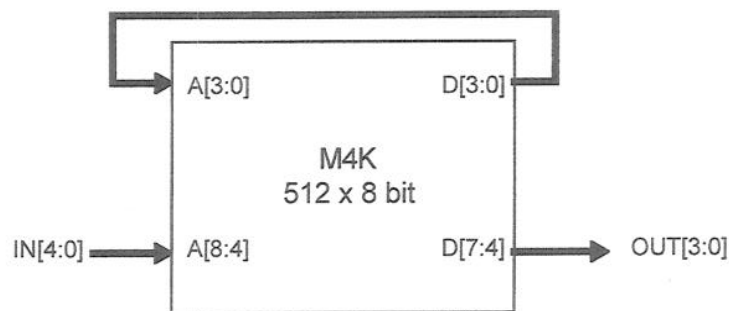

Figure 3.1
3. Figure 3.1 shows the schematic of a 5-input, 4-output finite state machine (FSM) implemented using a 4k bit memory block (M4K) in Altera's Cyclone II FPGA. The input $IN[4:0]$ to the FSM is one-hot encoded. The M4K is configured as a 512 x 8 ROM with registered address inputs. The contents of some of the ROM locations are shown in Figure 3.2. All the other locations contain the value 0.